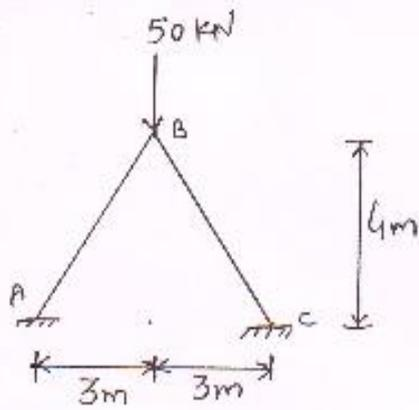

Figure 3
Q.3 Analyse the plane frame shown in Figure 3, using member approach stiffness **14**